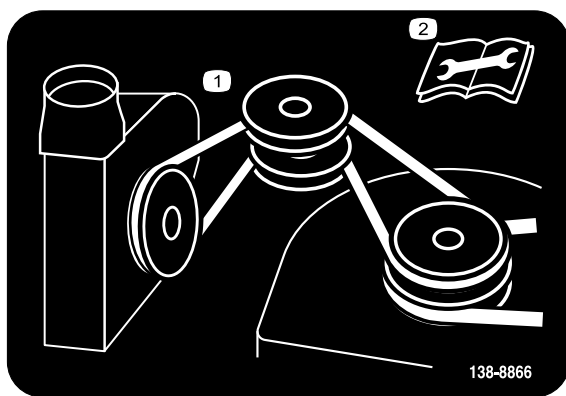
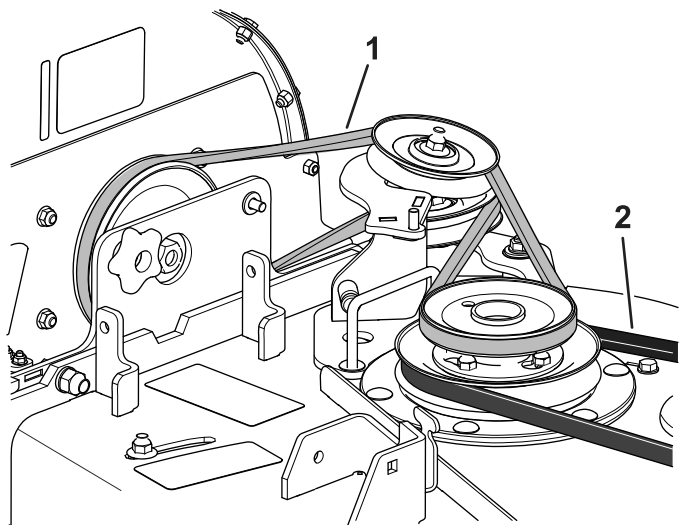

Figure 5
Figure 6
3. Install the belt to the pulleys and idler assembly as shown in Figure 5 and Figure 6.